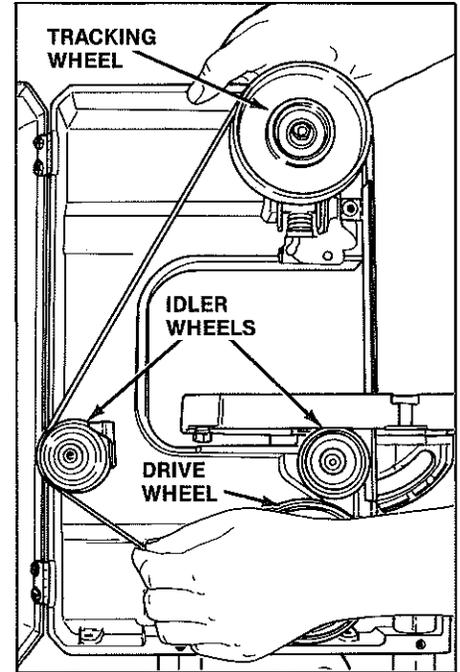
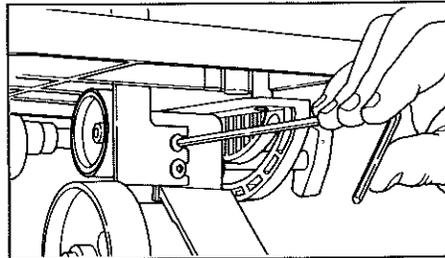
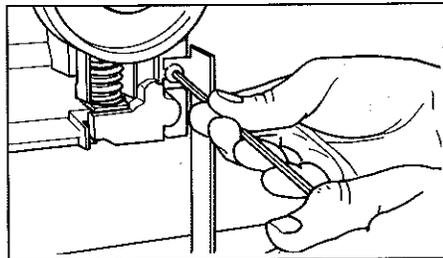
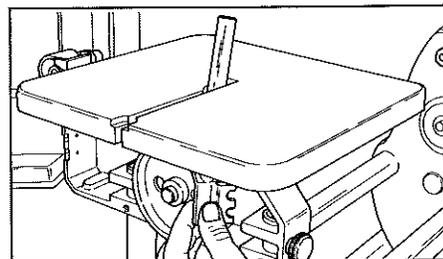

Figure 13. Press down on the tracking wheel to loosen the tension on the belt.
Figure 14. Loosen the flat or curved platen's base mounting screws.
Figure 15. Loosen the flat platen's top mounting screw.
Figure 16. Slide the curved platen down and out through the hole in the center of the table.
1. Remove the table leveling clamp (42 and 43) from the table (41).
2. Open the cover (1) by loosening the cover lock knob (39). Gently pull cover until the "S" clip (53) disengages.
3. Remove the belt. Loosen the tension on the belt by pressing down on the tracking wheel (6) with the palm of your hand. (See Figure 13.) Remove the belt from the drive wheel (25) and idler wheels (17). Slide the belt through the slot in the table.
a. If you are removing or changing the 1" or 1/2" flat platen, loosen the two screws (35) at the base of the platen (Figure 14) and one screw (35) at the top (Figure 15) with a 5/32" Allen wrench. Slide the platen sideways out through the table slot.
If you are removing or changing the 1/2" curved platen, loosen the two screws (35) at the base of the platen. (See Figure 14.) Slide the platen down through the hole in the center of the table. (See Figure 16.)
b. Choose the desired platen and slide it sideways through the table slot or up through the hole in the center of the table. Secure the platen to the frame with screws (35). When installing the curved platen, the top screw is not used. However, you must be sure to tighten the top screw against the frame.
5. **Install the belt** by placing it through the slot in the table, over the tracking wheel (6), then under the drive wheel (25). With the palm of your hand, push down on the tracking wheel (6), and place the belt onto the rear idler wheel (17). The belt is installed as shown in Figure 13. Belt tension is set automatically when the tracking wheel is released.